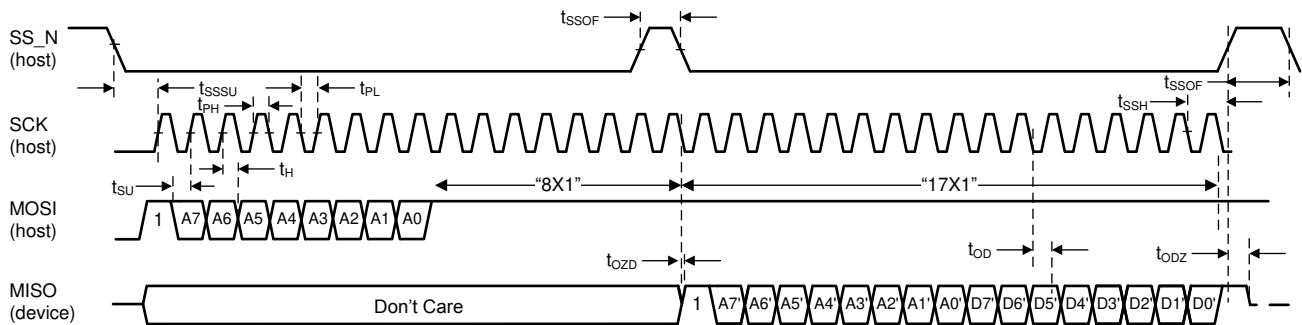

Figure 2. SPI Timing Parameters
- (1) See Figure 2 for timing diagrams.